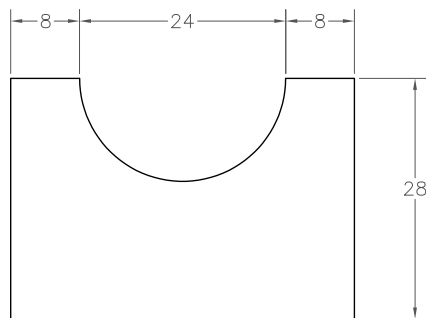

Figure 3-120 The region to be extruded
12. Draw the profile shown in Figure 3-120 at any place in the drawing area and then convert it into a region.